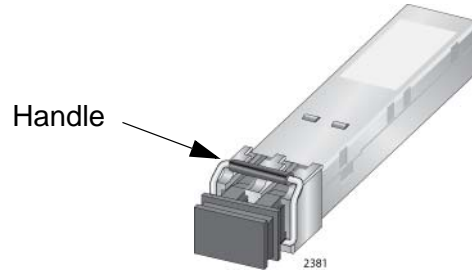

Figure 99. Handle on SFP Transceiver
- To install the transceiver in an SFP transceiver slot on the top row of the line card, orient the transceiver with the handle on top, as shown in Figure 99. To install it into a transceiver slot on the bottom row of the line card, orient it with the handle on the bottom.